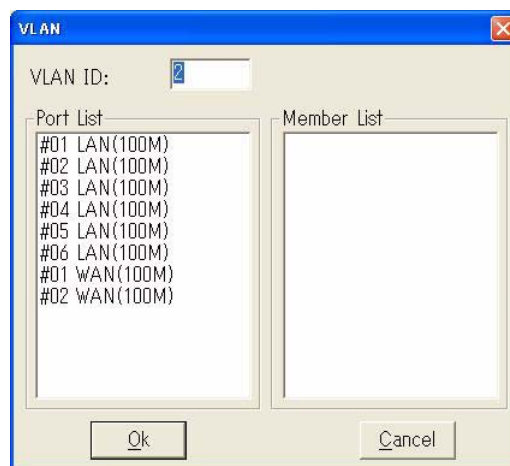

Fig. 4-4-68 Adding VLAN
- 2 Select FE or FEP card in left sub-window, then click **Add** button, *Fig. 4-4-68* appears:
- 2 Select FE card in left sub-window, then click **Add** button. **Fig. 4-4-68** appears.